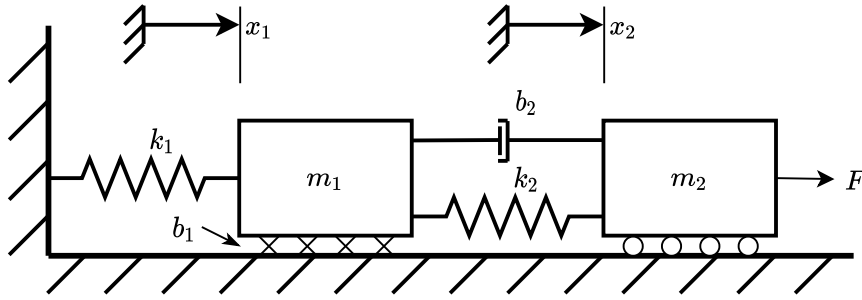

Figure 5: Two coupled carts which movements are constrained.
Figure 5 illustrates two coupled masses (carts) connected through a lossless spring and a damper. Moreover, the first cart is connected through a lossless spring to an immovable wall.
1. Create free-body diagrams of the system in Figure 5.